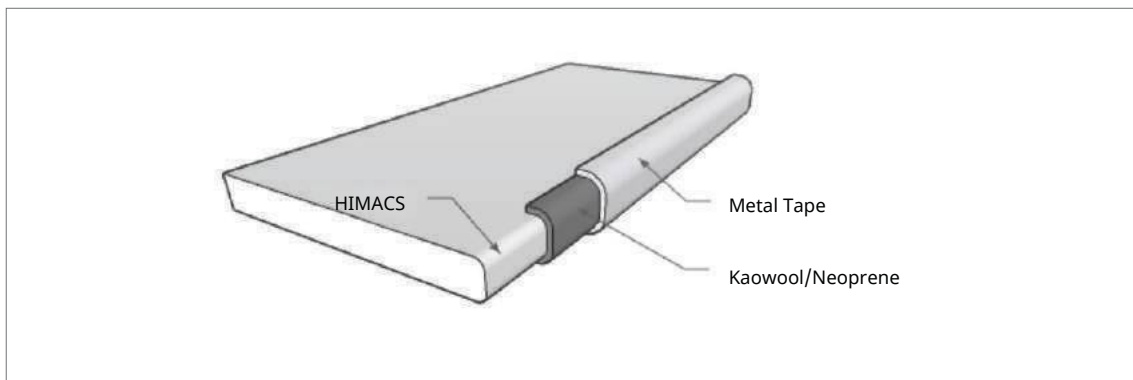

Fig.5
- Make sure the tape goes minimum beyond the flange on the surface and be placed inside of the cutout (Fig.5)